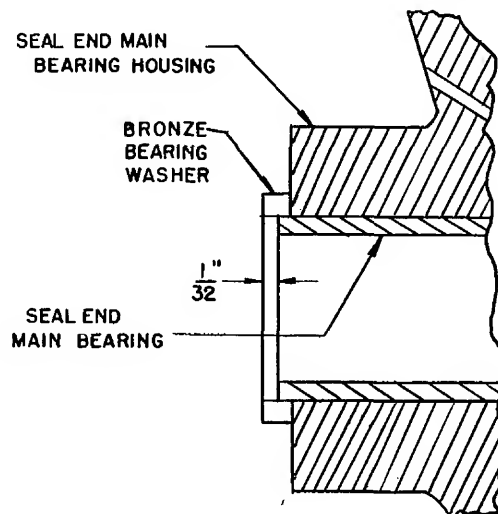

FIG. 44 - SEAL END MAIN BEARING POSITION
3. Pull the bearing into the housing with the puller until it is positioned as shown in Fig. 44. The edge of the bearing is $1/32$ " below the surface of the bronze bearing washer.